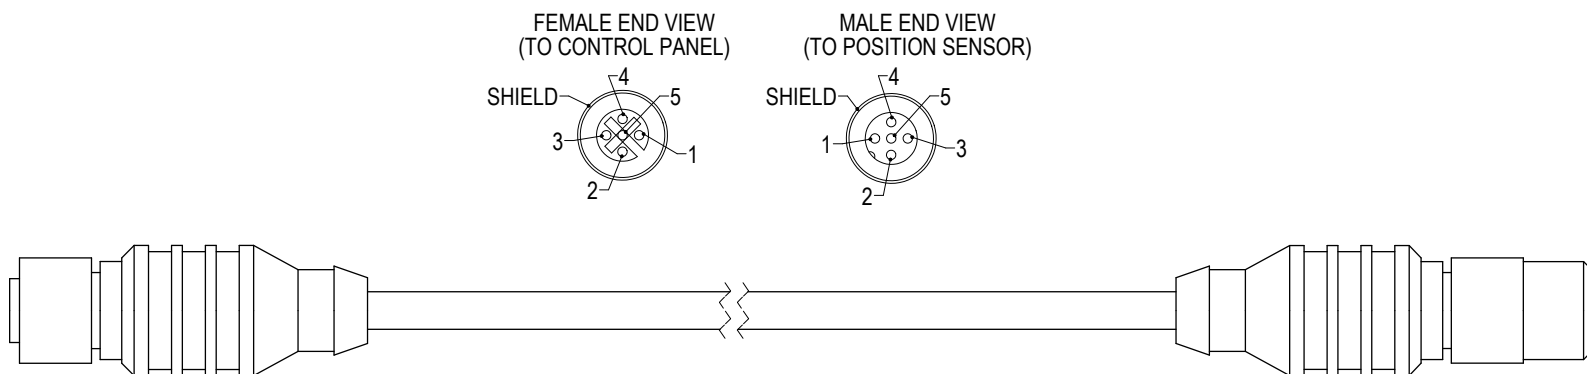

Figure 23 POSITION SENSOR CABLE
- Install wiring per wiring diagram FIG 23 page 19.